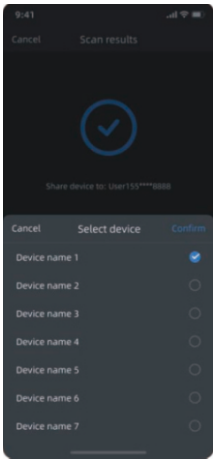

Figure 4
- 4)Figure 4: When there are multiple devices under your name, you can select the device you want to share in the "**Select device**" pop-up window.